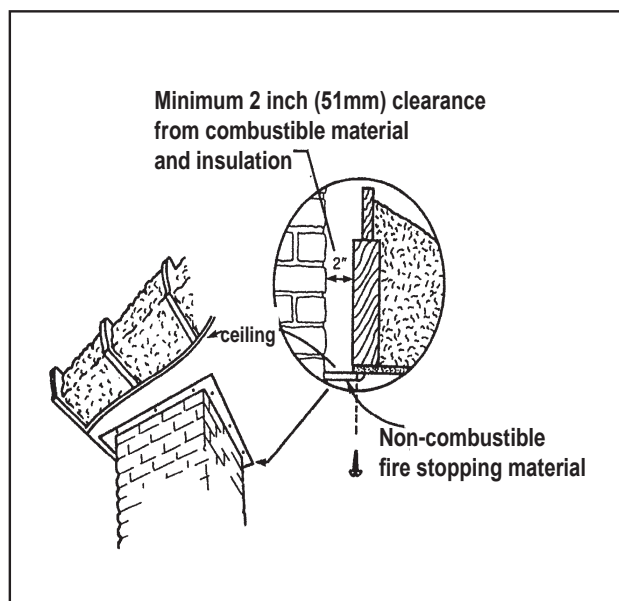

Figure 12.1
- Non-combustible fire stops must be installed at the spaces where the chimney passes through floors and/or ceilings. **Figures 12.1 and 12.2.**